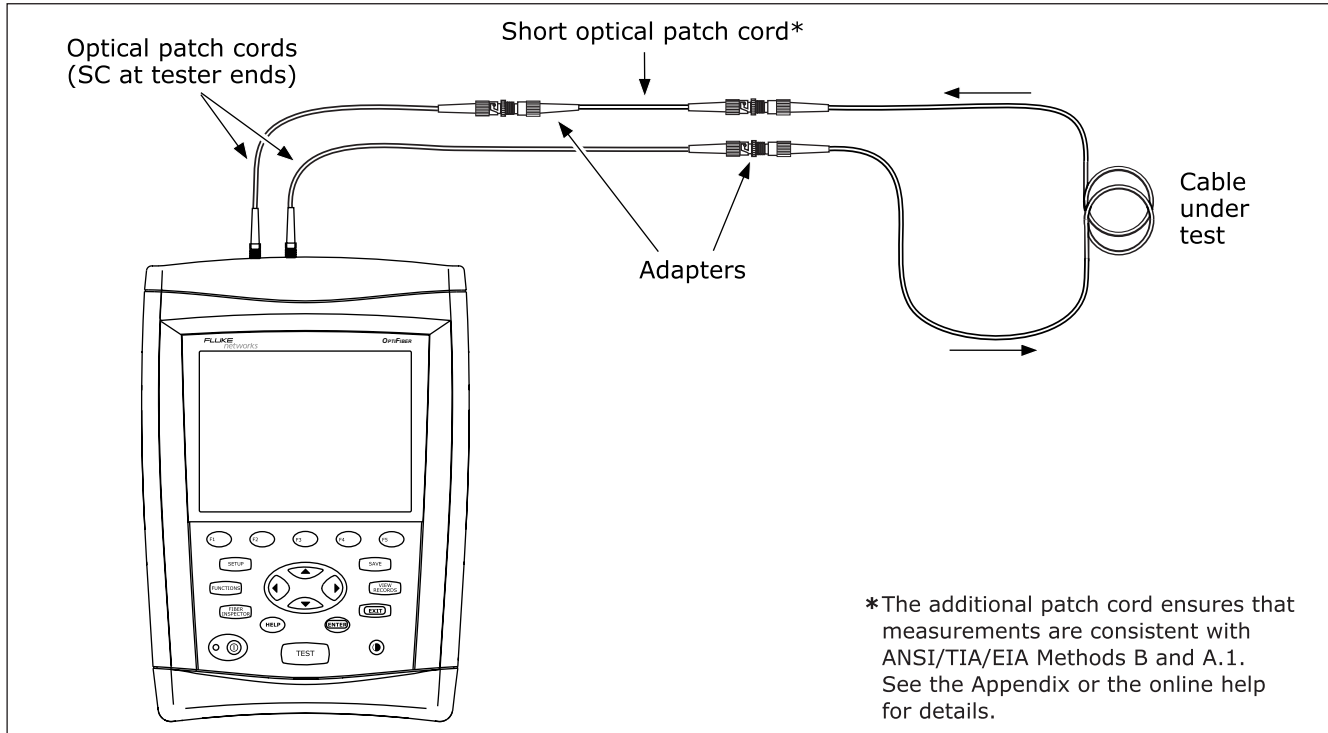

Figure 6-7. Loopback Mode Test Connections
4. Connect the tester to the cabling as shown in Figure 6-7.